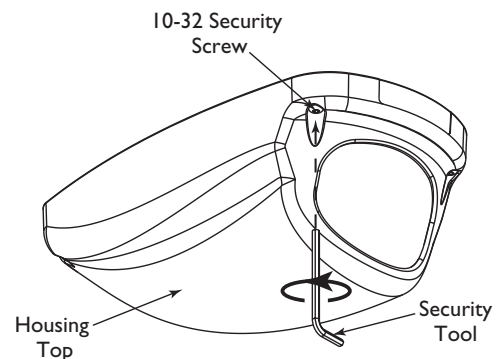

Figure 1 Opening the Housing Top
2. Open the housing top by loosening the (2) 10-32 security screws using the security tool provided (Figure 1). Once the screws have been loosened, pull on the top to open completely.